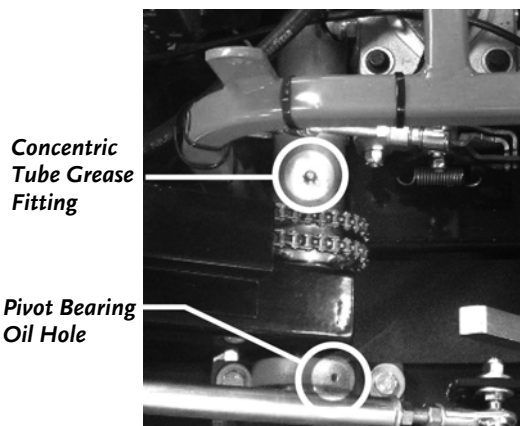

Figure 10
2. Using Lithium Grease, lubricate the two Fittings on the Upper Concentric Tube and one Fitting on the Lower tube (**Figure 10**).